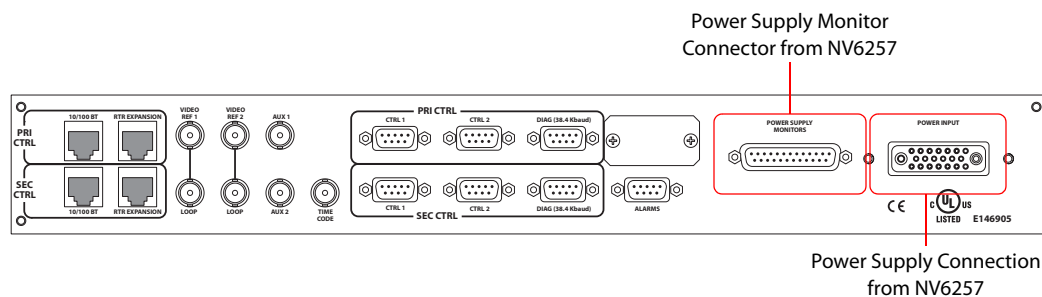

Figure 3-2. Power Supply Monitor Connection and Power Supply Connection on Router (Rear View)
- 3 Facing the rear of the **router**, connect the remaining power connector on the “Y” power cable to ‘Power Input’, as shown in Figure 3-2.
- 5 Facing the rear of the **router**, connect the other end of the monitor cable to ‘Power Supply Monitor’, as shown in Figure 3-2.
- 3 Facing the rear of the **router**, connect the other end of the power supply cable to ‘Power Input’, as shown in Figure 3-2 on page 27.
- 5 Facing the rear of the **router**, connect the other end of the monitor cable to ‘Power Supply Monitor’, as shown in Figure 3-2 on page 27.
- 4 Facing the rear of the **first router** (router 1), connect the other end of the power supply cable to ‘Power Input’, as shown in Figure 3-2 on page 27.
- 6 Facing the rear of the **second router** (router 2), connect the other end of the power supply cable to ‘Power Input’, as shown in Figure 3-2 on page 27.